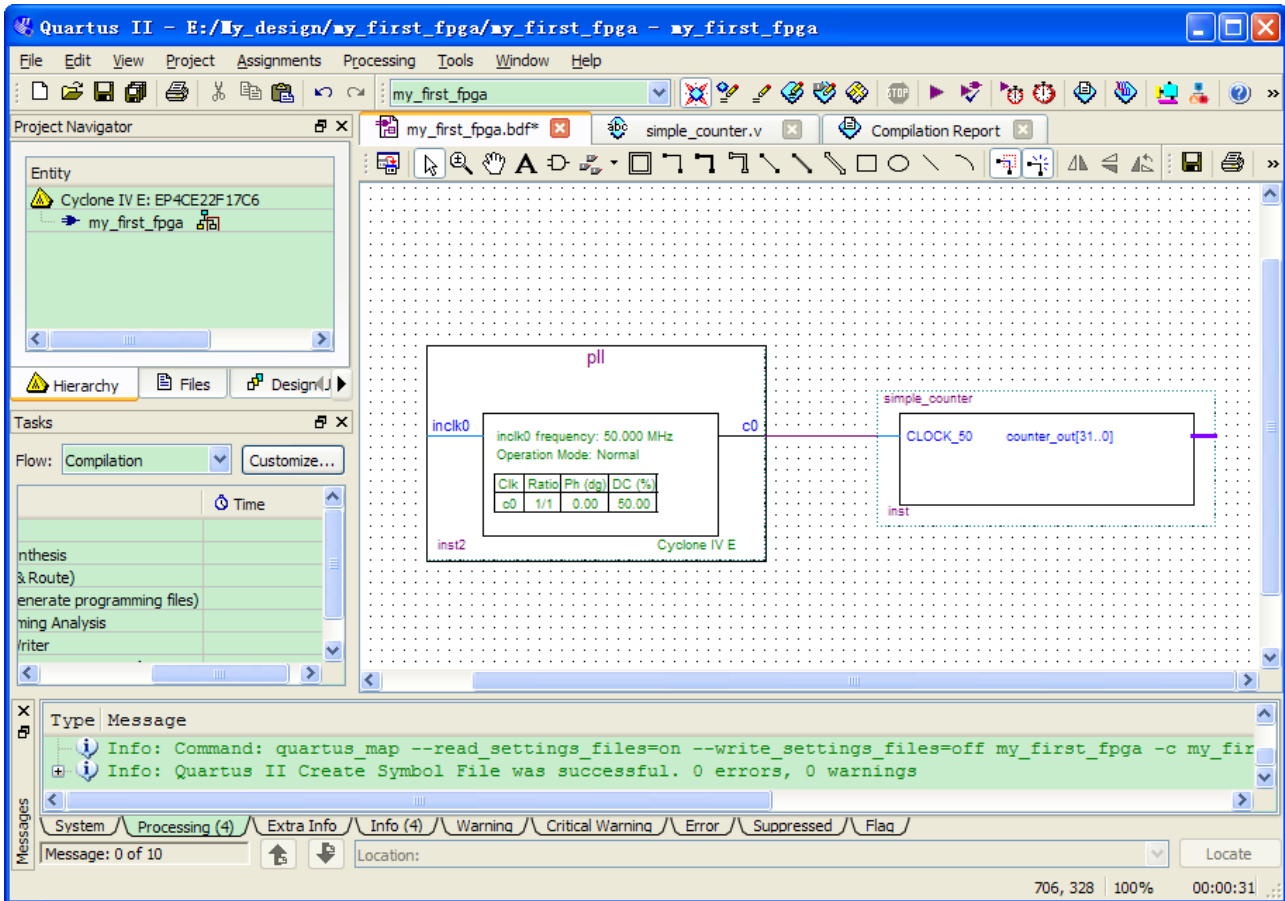

Figure 6-27 Draw a Bus Line connect pll c0 port to simple_counter CLOCK_50 port
13. Click and drag a bus line from the c0 output to the simple_counter clock input. This action ties the pll output to the simple_counter input (see Figure 6-27).